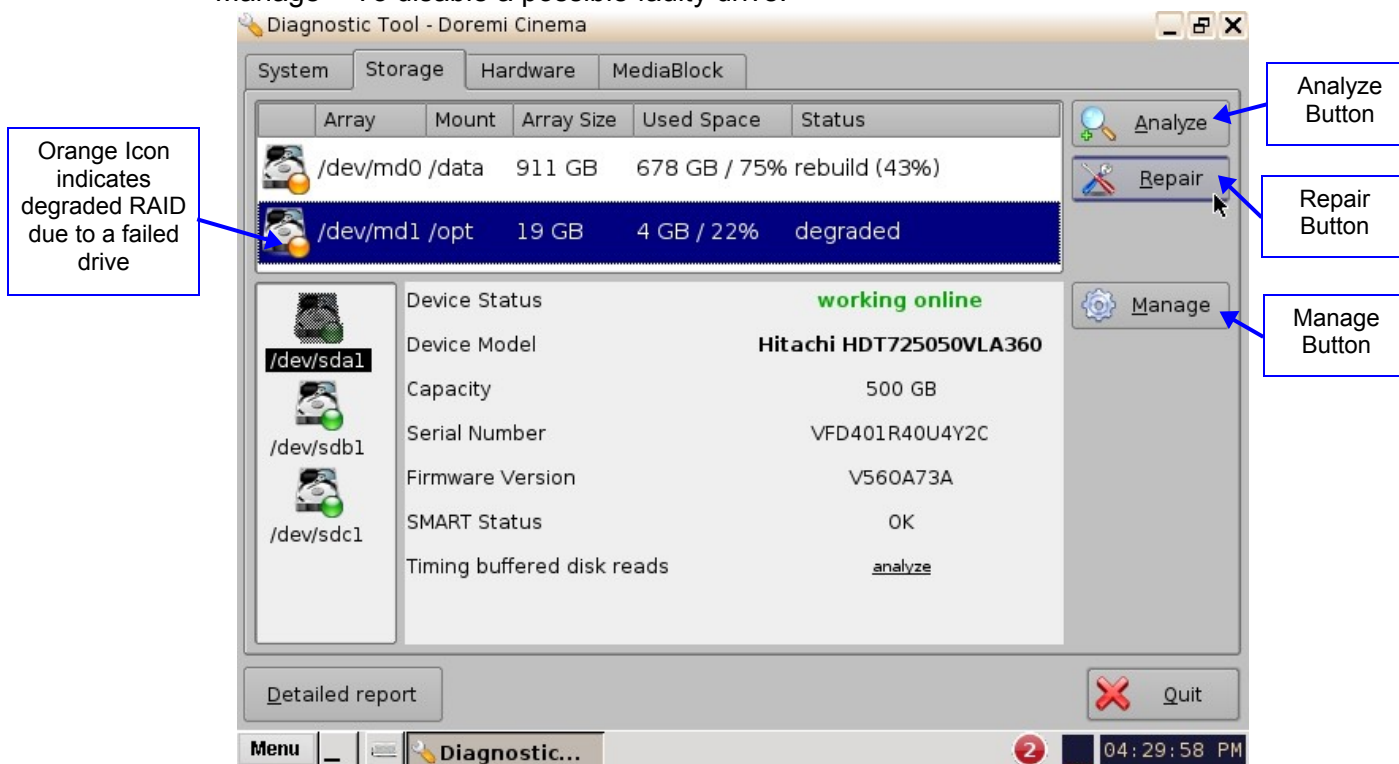

Figure 12: Storage Tab Window With RAID Degraded
- To analyze or repair a RAID, click on the Analyze or Repair buttons (Figure 12).